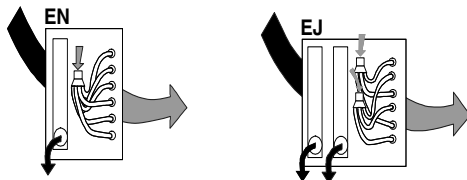

Figure 1 - Evaporator Coils
3. See Figure 1 - Evaporator Coils.